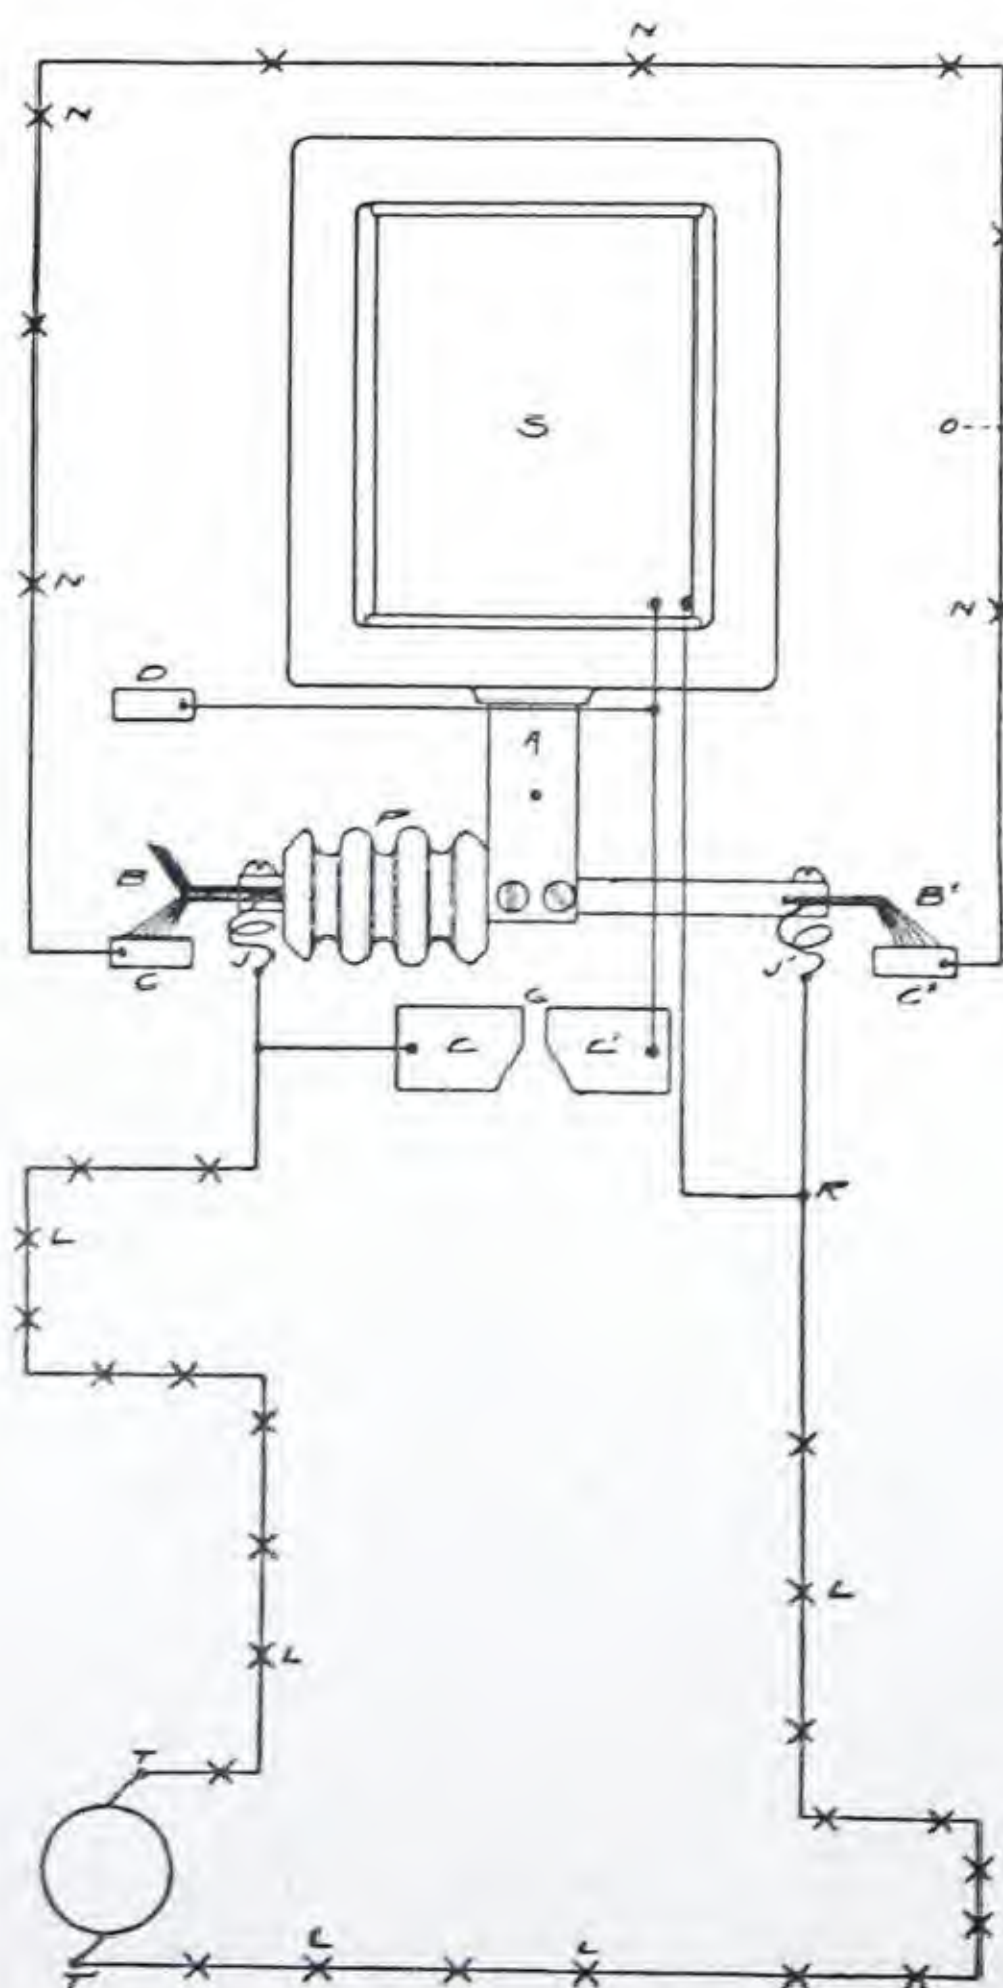

FIG. 3—DIAGRAM OF CIRCUITS
**Circuit**—In Fig. 3, the circuit, under normal conditions, starts from the terminal  $T$  of a constant-current dynamo or constant-current transformer, passes through the series lamps  $L, L$ , etc., along the flexible conductor  $J$ , to the laminated contact  $B$  and contact plate  $C$ , through the lamps  $N, N$ , etc., to contact plate  $C^1$  and laminated contact  $B^1$ , along flexible conductor  $J^1$ , through balance of lamps  $L, L$ , etc., to terminal  $T^1$  of the dynamo or transformer.
Fig. 4 shows one of the simplest applications of the cutout, which being placed at *A*, protects the loop beyond it. If a break occurs as at *O*, the cutout will operate, disconnecting this loop entirely from the balance of the circuit, and short-circuiting the line at *A*, keeping the remainder of the circuit in operation. The defective loop now being dead, can be repaired and re-connected into the circuit as described in the discussion of Fig. 3.